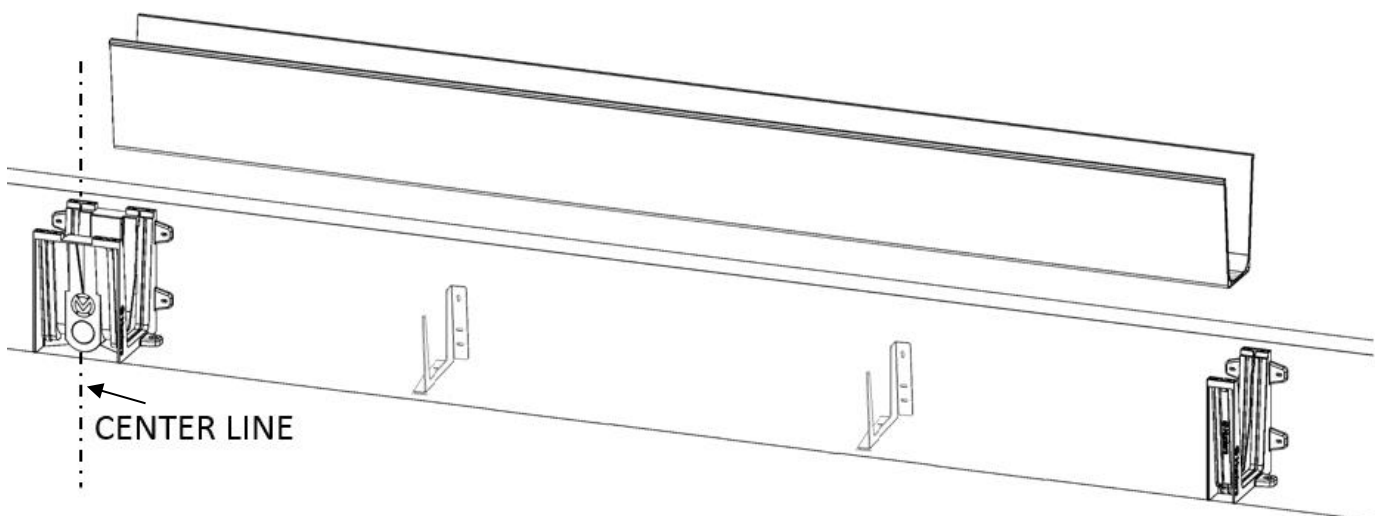

Figure 8
Position the Short Bottom Water Gutter [ref. 2] in the brackets paying attention to place it against the Supply Unit Connection Bracket. Align left towards the centre line. See Figure 8.